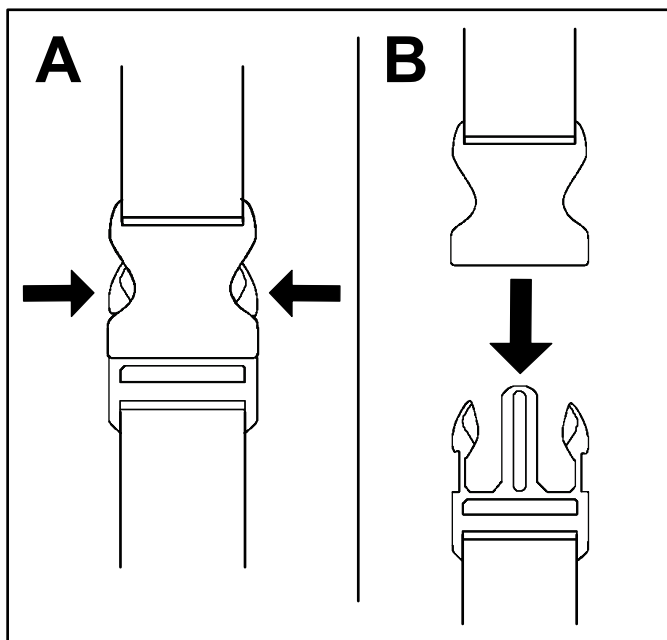

Figure 17
1. Press in on the sides of the buckle (A of Figure 17).
2. Allow the buckle to disconnect (B of Figure 17).